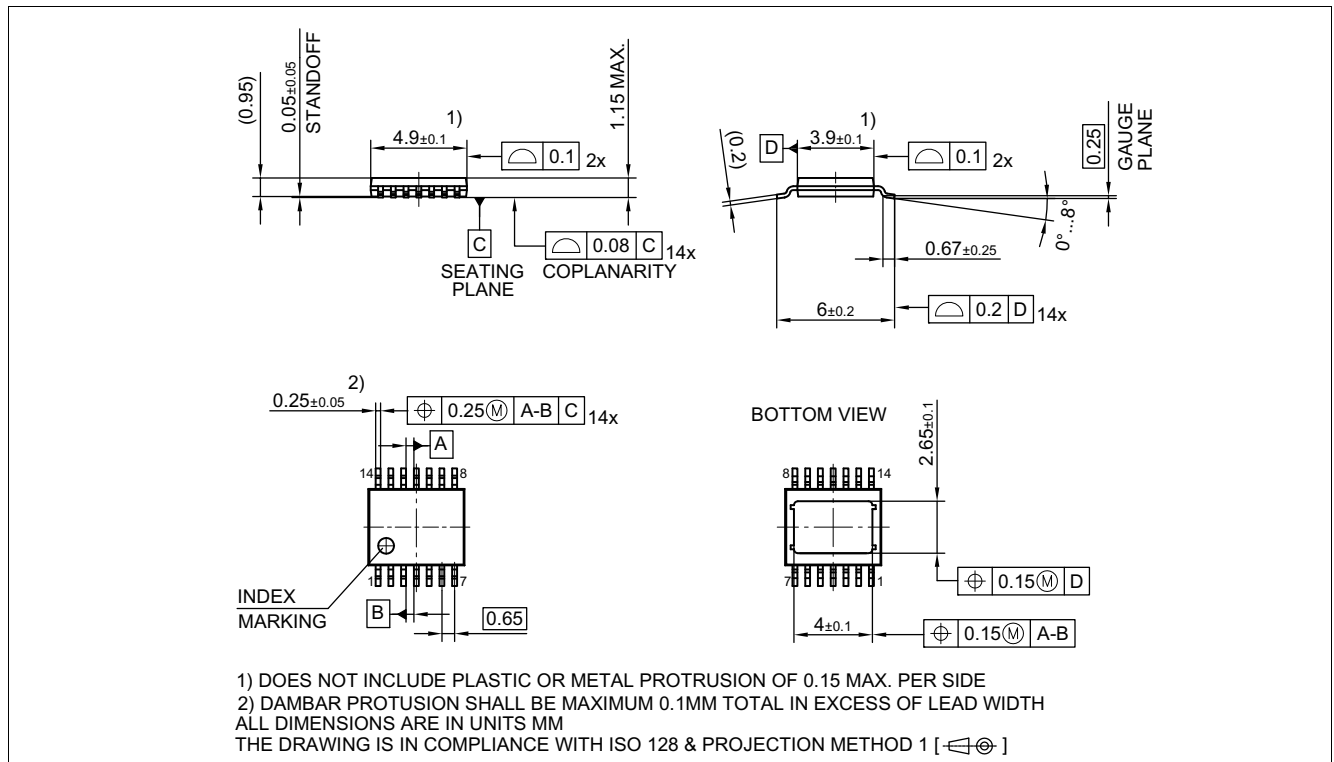
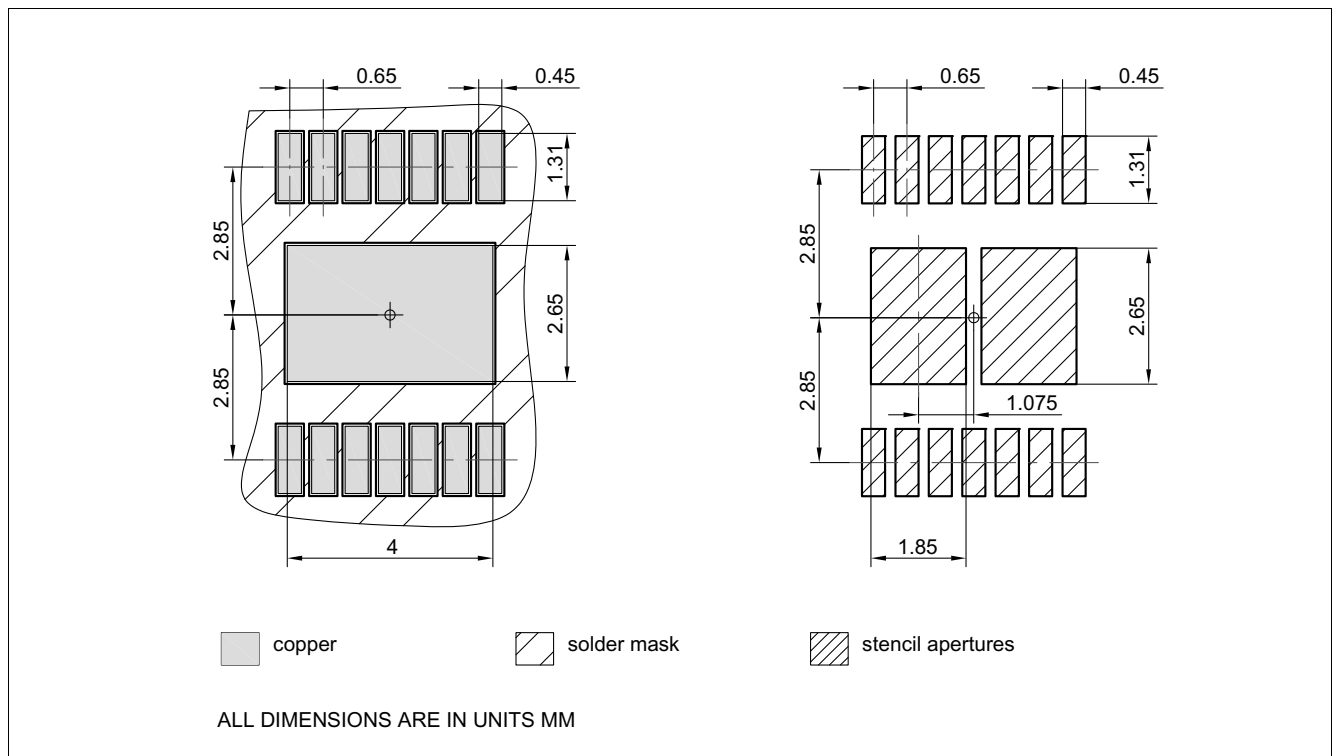

Figure 44 PG-TSDSO-14 (Thin (Slim) Dual Small Outline 14 pins) Package Outline
Figure 45 PG-TSDSO-14 (Thin (Slim) Dual Small Outline 14 pins) Package pads and stencil
1.03 , 2018-10-18	<p>Chapter 9.3.1 updated (typo)</p> <p>Page 1: updated (Package PG-TSDSO-14-22 → Package PG-TSDSO-14)</p> <p>Figure 29 updated</p> <p>Figure 44 updated (PG-TSDSO-14-22 (Thin (Slim) Dual Small Outline 14 pins) Package Outline → PG-TSDSO-14 (Thin (Slim) Dual Small Outline 14 pins) Package Outline)</p> <p>Figure 45 updated (PG-TSDSO-14-22 (Thin (Slim) Dual Small Outline 14 pins) Package pads and stencil → PG-TSDSO-14 (Thin (Slim) Dual Small Outline 14 pins) Package pads and stencil)</p> <p>Table 1 updated ((Symbol: $I_{VS(SLEEP)}$ → $I_{VS(SLEEP_85)}$), (Parameter: Minimum Overvoltage protection ($T_J = 25\text{ °C}$) → Minimum Overvoltage protection ($T_J \geq 25\text{ °C}$))</p> <p>P_9.6.0.6 updated (Note or Test Condition: removed unnecessary line-break)</p> <p>Chapter 7.4.1 updated chapter title (PROFET → PROFET™)</p> <p>Table 12 updated table title (PROFET → PROFET™)</p> <p>Chapter 8.6.1 updated chapter title (PROFET → PROFET™)</p> <p>Table 16 updated table title (PROFET → PROFET™)</p> <p>Chapter 9.5.1 updated chapter title (PROFET → PROFET™)</p> <p>Table 21 updated table title (PROFET → PROFET™)</p> <p>P_4.1.0.21, P_4.1.0.22, P_4.1.0.23, P_4.1.0.24 updated (footnote ESD standards)</p> <p>Table 1 updated ($R_{DS(ON)}$ → $R_{DS(ON_150)}$), ($V_{DS(CLAMP)}$ → $V_{DS(CLAMP_25)}$)</p> <p>Chapter 8.5.2 updated phrasing</p> <p>P_7.5.3.14 Table subheading "Switching Energy" added</p> <p>P_7.5.3.15 Table subheading "Switching Energy" added</p> <p>Chapter 6.4 added conditions</p> <p>Chapter 7.5 added conditions</p> <p>P_7.5.3.14 updated (Test condition: add "See Figure")</p> <p>P_7.5.3.15 updated (Test condition: add "See Figure")</p> <p>Chapter 8.7 added conditions</p> <p>Chapter 9.6 added conditions</p> <p>P_9.7.3.27 updated (Test condition: add "See Figure")</p> <p>P_9.7.3.29 updated (Test condition: add "See Figure")</p> <p>Chapter 7.3.1 typo corrected (link to Figure 19 added)</p>